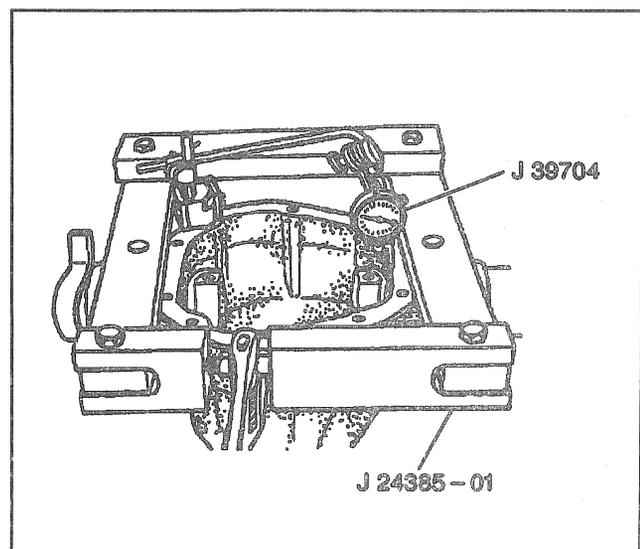

Figure 27—Mounting The Spreader
- Assemble J 24385-01 to the axle (Figure 27).